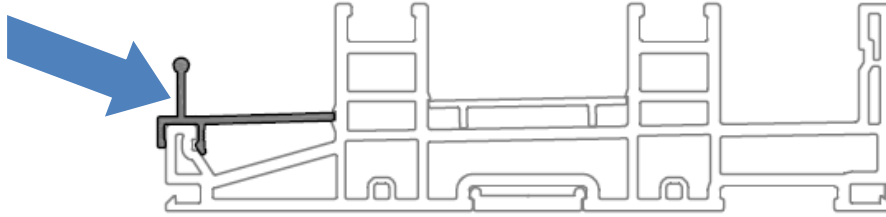

Figure 26
- 1) Attach the standard screen track in place as shown below. (See Figure 26)